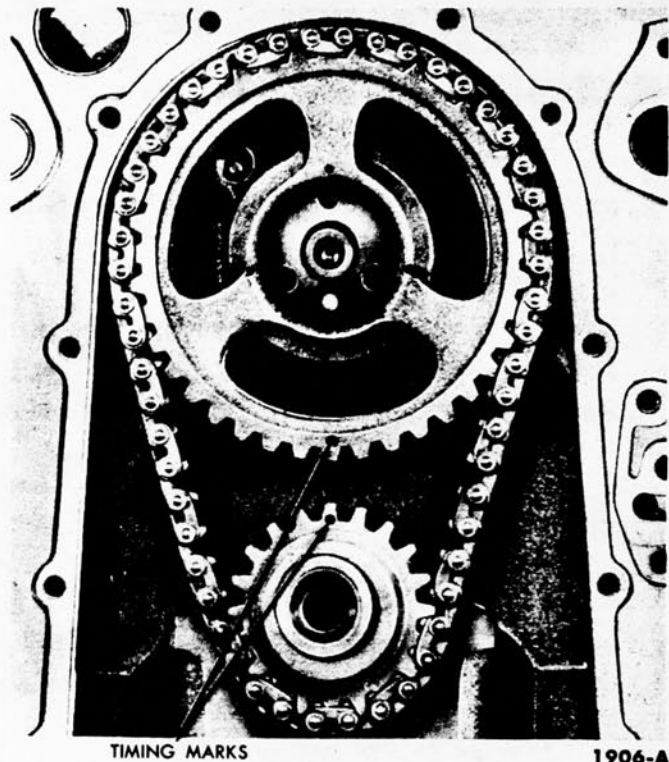

FIG. 40—Aligning Timing Marks
2. Place the timing chain in position on the camshaft sprocket. Install the camshaft sprocket and timing chain (Fig. 14), aligning the timing mark on the crankshaft sprocket (Fig. 40).